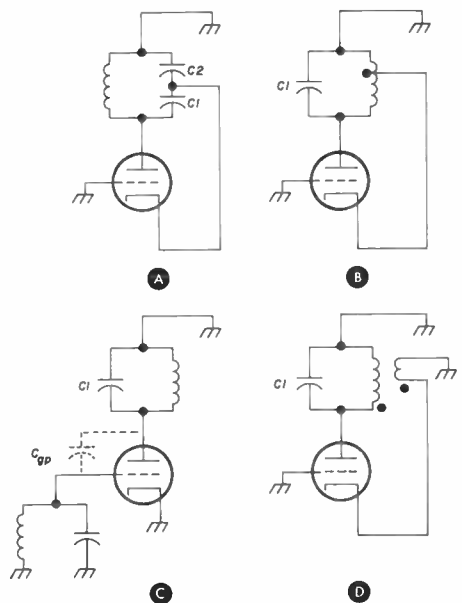
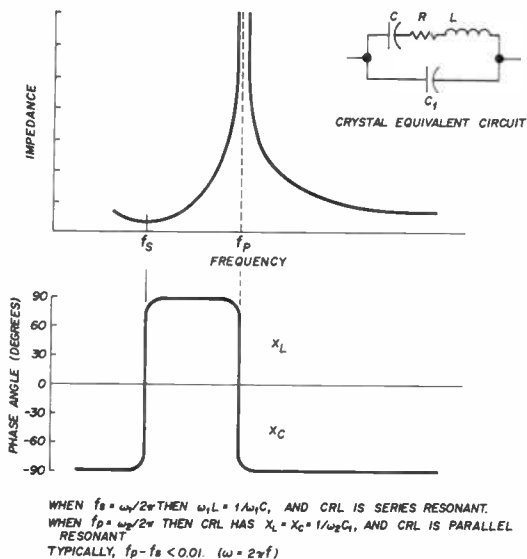

fig. 13. The four basic oscillator circuits: Colpitts (A), Hartley (B), tuned plate-tuned grid (C) and tickler-feedback (D).
fig. 15. Series and parallel resonance impedance characteristics of a crystal.
designs. These are the Colpitts, Hartley, tuned-plate-tuned-grid and tickler-feed-back circuits, as shown in fig. 13. They can all be modified to incorporate a crystal, as shown in fig. 14. Note that some of these circuits use the crystal as a series-resonant circuit, and others as an inductance. A single crystal can exhibit either of these characteristics, as shown in fig. 15; but you must account for the fact that *each occurs at a different frequency*. This is one reason for the various "CR" specifications; some crystals are cut for series-resonant and some for near parallel-resonant operation. A listing of military CR specifications is given in table 2.
fig. 14. Descendants of the oscillators in fig. 13 using crystals for frequency control. In the Pierce (A) Cpk and Cgk replace C1 and C2 of fig. 13(A). Series-mode crystal is used in the Hartley circuit (B). The Miller oscillator (C) is a version of the tptg. In (D) a series-mode crystal is used in a tickler-feed-back oscillator. Blocking capacitors are denoted by an asterisk.